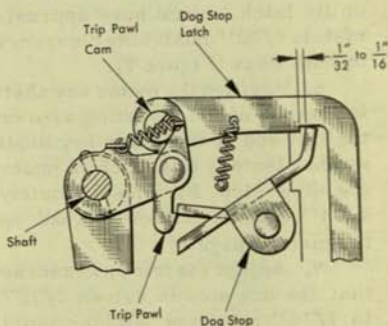

Figure 9
9. Adjust the tripping pawl cam so that the dog stop is driven $1/32''$ to $1/16''$ past the latching point on the dog stop latch before the tripping pawl is cammed off the dog stop (Figure 9, page 6).